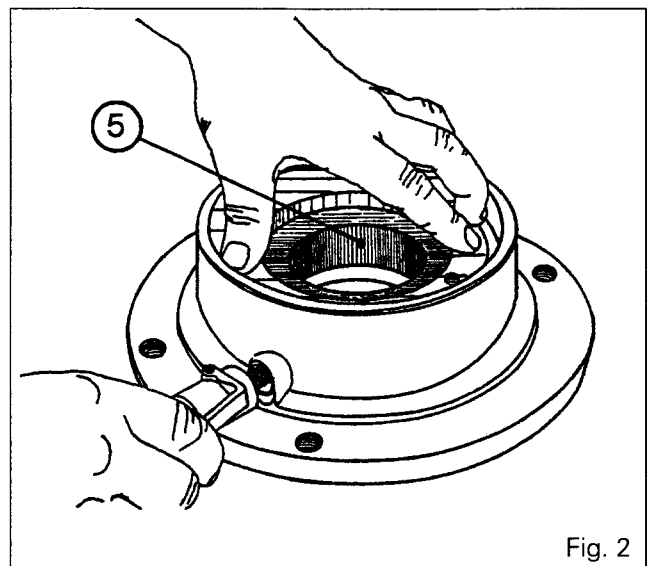

Fig. 2
6. Remove the circlip (4).
7. Withdraw the piston (5) with the aid of a jet of compressed air (Fig. 2).
8. Remove the O-rings (3), (8) and (1).
9. Unscrew the finger (12) (if necessary).